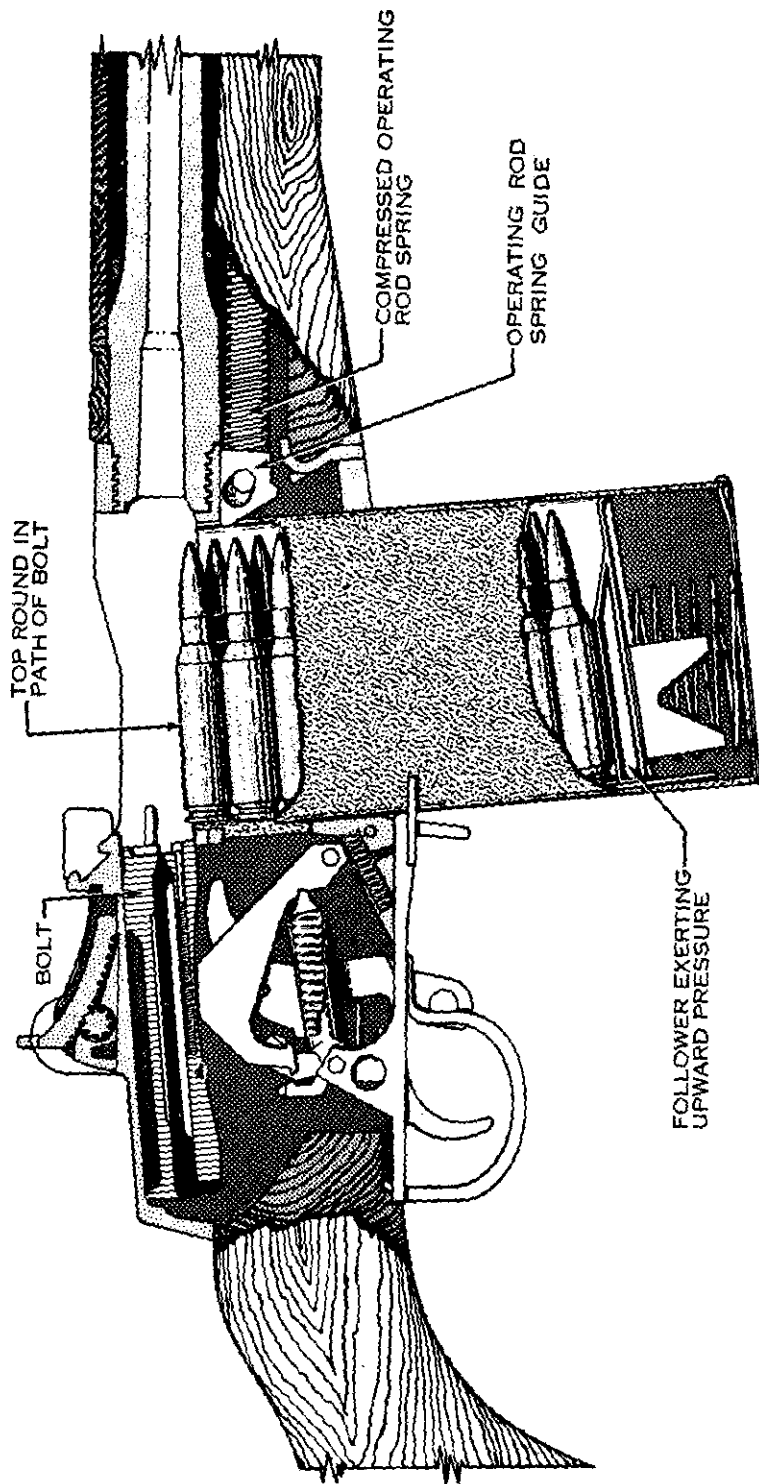
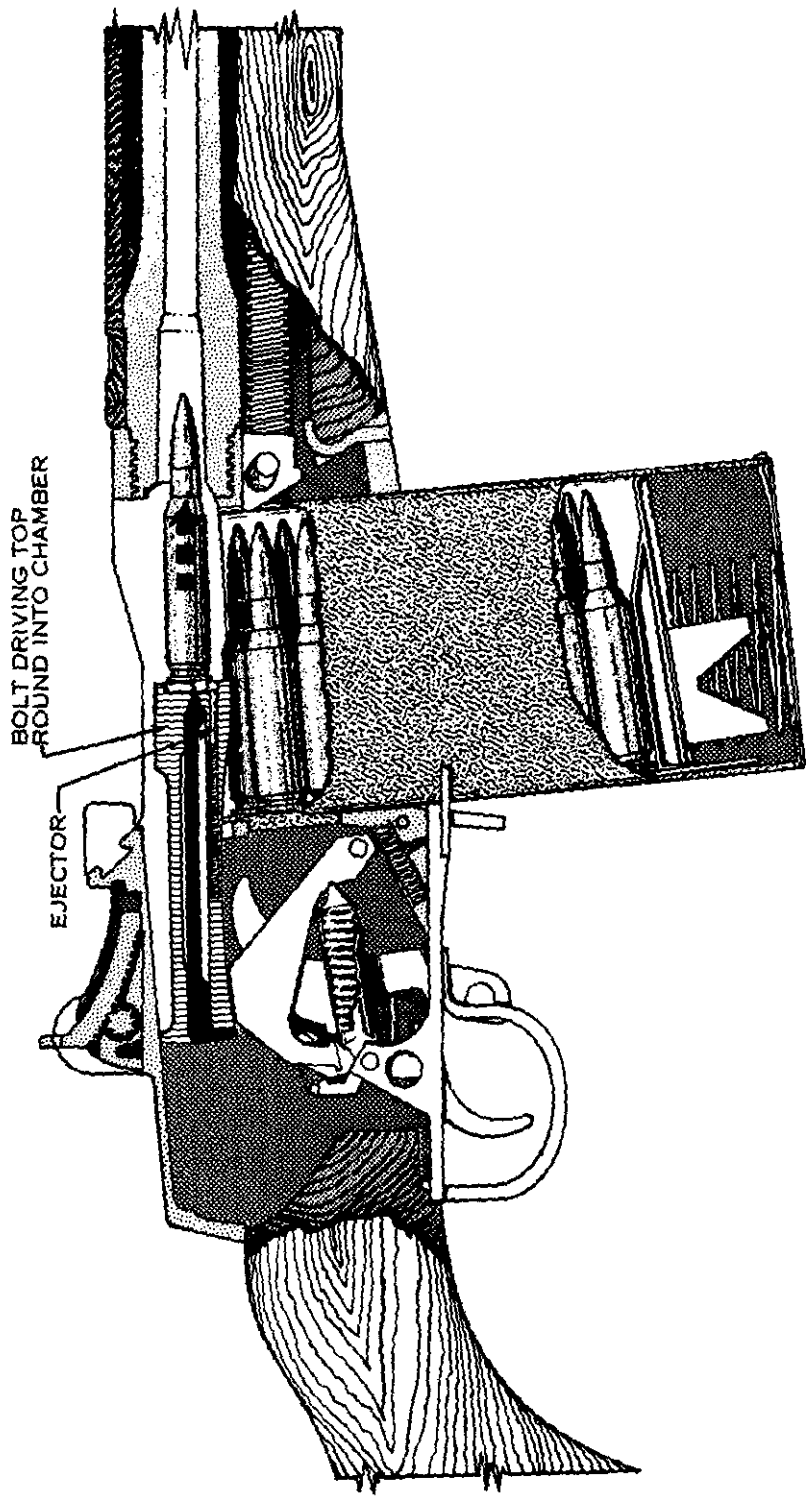

Figure 37. Position of parts when the bolt is to the rear.
Figure 38. Chambering.
b. The cycle of operation is broken down into eight steps. These steps are listed below, together with a brief description of what occurs inside the rifle during each. With the selector set for semiautomatic fire (the blank face of the selector facing the firer), assume that a full magazine has been loaded in the rifle and that the first round has been fired and the bolt is to the rear (fig. 37).
- (1) *Feeding.* Feeding takes place when a round is forced into the path of the bolt. The top round is forced into the path of the bolt by the magazine follower which is under pressure of the magazine spring.
- (2) *Chambering.* Chambering occurs when a round is moved into the chamber. This takes place as the bolt goes forward under pressure of the expanding operating rod spring. The bolt picks up the top round in the magazine and drives it forward into the chamber (fig. 38). Chambering is complete when the extractor snaps into the extracting groove on the cartridge and the ejector is forced into the face of the bolt.